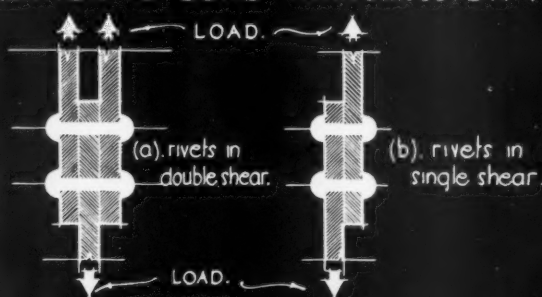

FIGURE 2 : SHEAR CONNECTIONS.
(2) Shear connection (Fig. 2, (a) and (b)), in which the force is transmitted by means of rivets or bolts, stressed in shear.